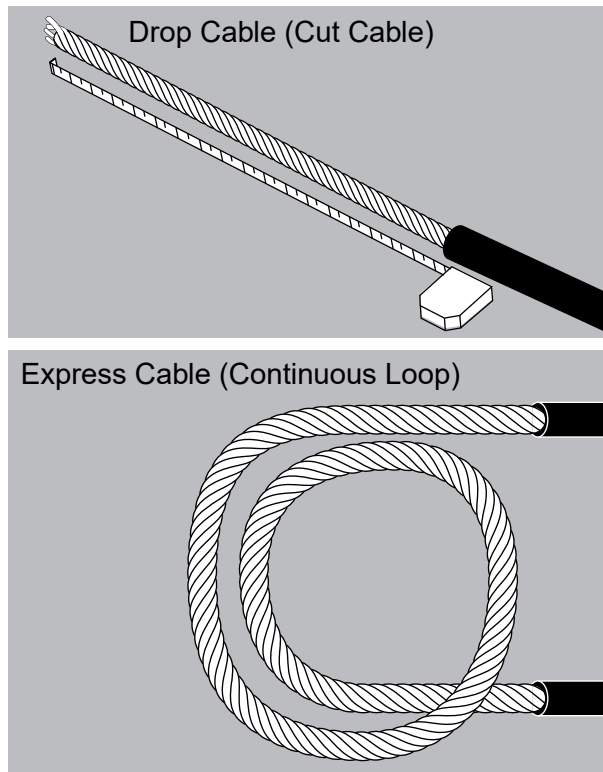

FIGURE 1
1. Remove sheaths as per manufacturers' instructions. (Figure 1)